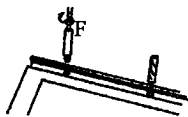

Figure 1
2. Install cam lock: take all pieces out of the box. Use screw drive put each cam screw (F) in the pre drilled spots (Figure 1). Then put the cam lock (F) into the pre drilled holes. Make sure the arrow on the cam lock is towards the opening of the hole. This step includes drawers